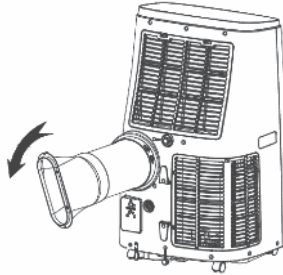

Figure 1
Install the heat pipe assembly (as shown in Fig.1)
1. take out the outer connector assembly and the exhaust pipe assembly, and remove the plastic bags; insert the heat pipe assembly (the end of the exhaust joint) into the back-panel vent slot (push to the left) and complete the assembly (as shown in figure 1).
1. Mark the middle (M) of the window seal (Fig. 1).